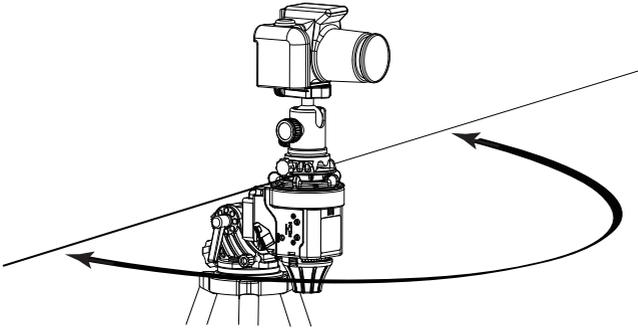

Fig 21
**Osc Range:** To avoid the shutter release cable from twisting after a long period of use under the Astrophotography applications, **Sky Memo S** will reverse after reaching 360° rotation. That is, for **Mode** ★ ☀ ☾ and **0.5X**, **Sky Memo S** will oscillate within a 360° range. For the other modes, in order to provide more attractive scene while filming for time-lapse photography, under time-lapse applications such as Mode 2X, 6X and 12X, **Sky Memo S** will oscillate within 180°(See Table 1). Every button pushed or mode changed will reset the starting point of the range. For example, when the **Mode Dial** is set at **6X** and **Slide Switch** at **N**, the position where the particular mode is entered will be the left boundary of the oscillation. That is, it will rotate to the right first until it reaches 180°, then oscillates within this range (Fig 21 & 22). If any button is pushed, the position at which the button is released will become the new left boundary of the 180° range. If the switch is set at **S**, it will rotate to the left first until it reaches 180°, then reverse the direction for another 180°, and repeat the cycle (Fig 21 & 22).